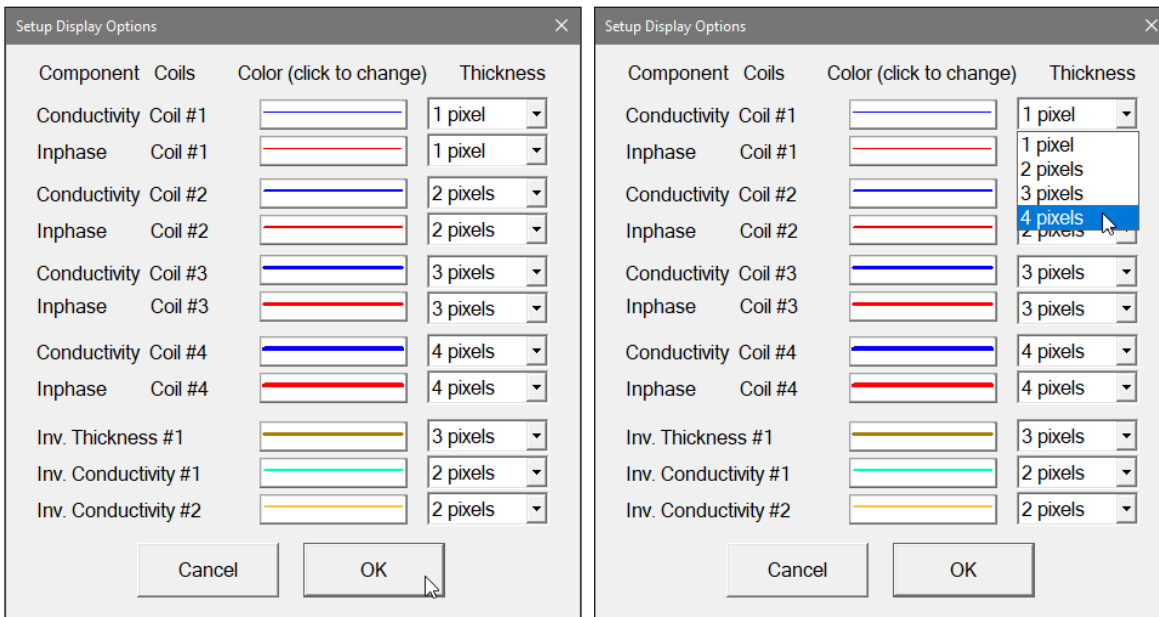

Figure 3.25 Select Display Options dialog and selecting profile line thickness
- The Setup Display Options dialog appears (Figure 3.25, left):
- Change the line thickness using the corresponding combo box (Figure 3.25, right).